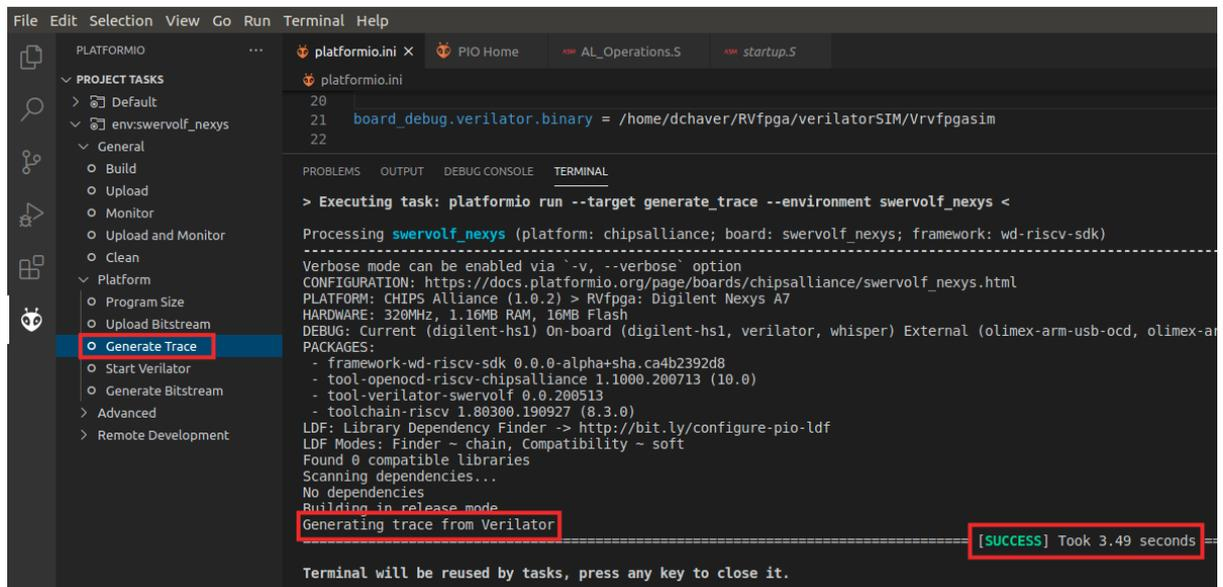

**Figure 82. PlatformIO initialization file: platformio.ini**
5. Open file *platformio.ini*. Establish the path to the RVfpgaSim simulation binary generated in the first step (*Vrvfpgasim*) by editing the following line (see Figure 82).